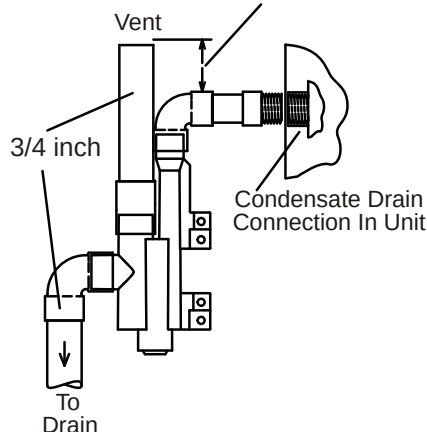

Figure 44. Trap / Drain Assembly Using 1/2 in. PVC or 3/4 in. PVC
This unit is designed for either right- or left-side exit of condensate piping. Refer to **Figure 37** and **Figure 38** for condensate trap locations. **Figure 43** and **Figure 44** show trap assembly using 1/2 in. PVC or 3/4 in. PVC.
3. Install the cap over the clean out opening at the base of the trap. Secure with clamp. See **Figure 43** and **Figure 44**.